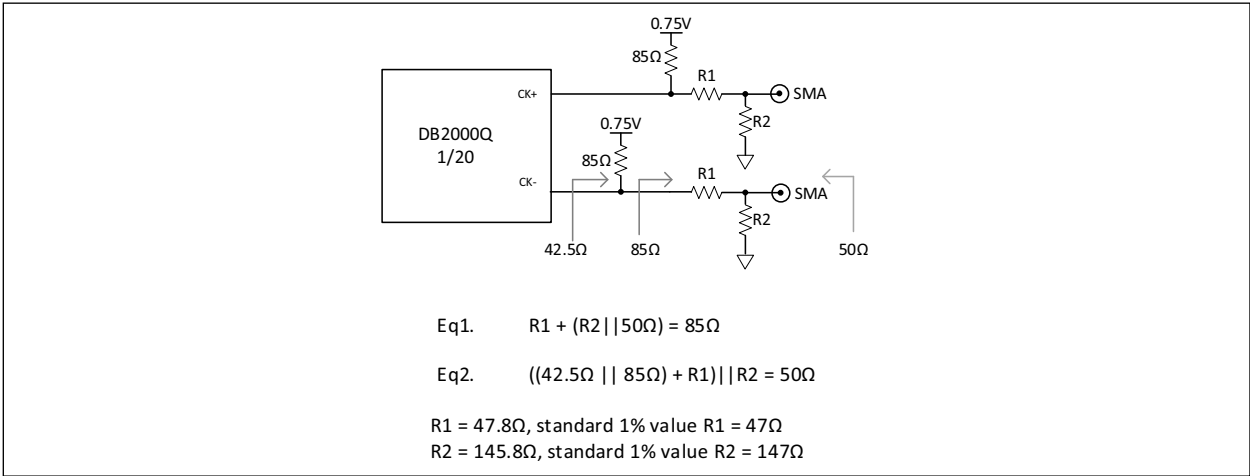

FIGURE 4-1: Figure 15.DC Test Load (as per DB2000Q Specification).
- 2:** Measured into DC test load. See Figure 4-1.